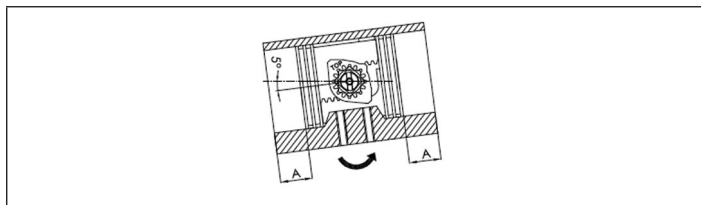

Fig. 15: Checking dimension A
- When the pistons have moved completely together, ensure that the obtained rotation with reference to the axis of the housing is slightly more than 0° and that dimension A is the same on both sides (see Fig. 15:).